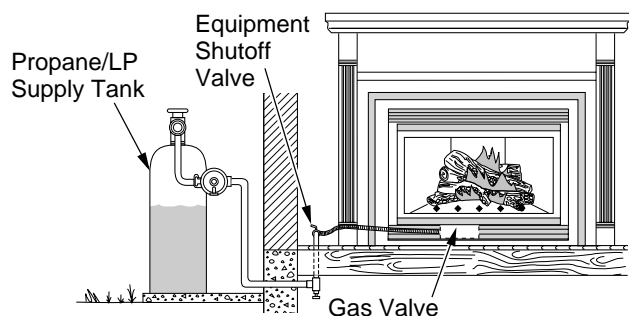
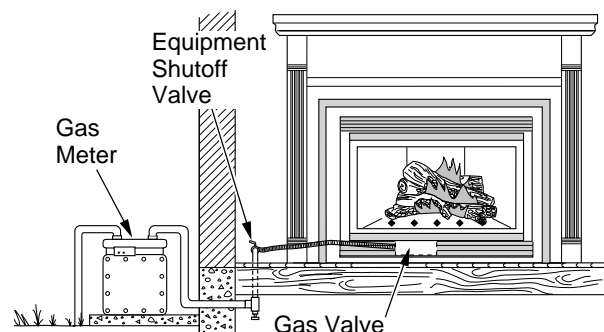

Figure 34 - Checking Gas Joints for Propane/LP Gas Fireplace
Figure 35 - Checking Gas Joints for Natural Gas Fireplace
3. Check all joints from propane/LP supply tank or gas meter to equipment shutoff valve (see Figure 34 for propane/LP or Figure 35 for natural gas). Apply noncorrosive leak detection fluid to all joints. Bubbles forming show a leak. Correct all leaks at once.
4. Check all joints from equipment shutoff valve to gas valve (see Figure 34 for propane/LP or Figure 35 for natural gas, page 20). Apply noncorrosive leak detection fluid to all joints. Bubbles forming show a leak. Correct all leaks at once.